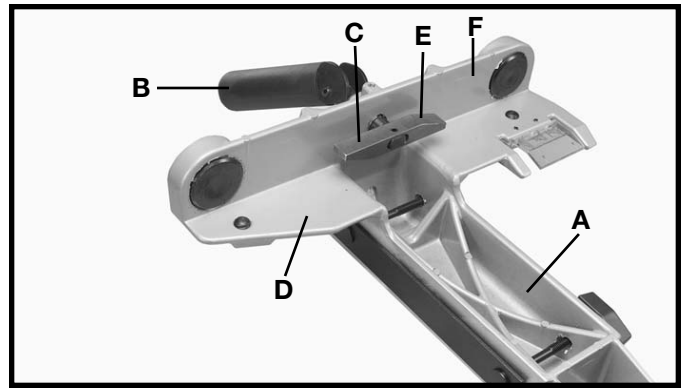

Fig. 66
1. Turn fence body (A) Fig. 66, upside down and lay it on a table or bench. Pull handle (B) out against fence body. Make certain the surface (C) of clamp bracket is parallel to the face (D) of the fence body, and that the inside edge (E) of the clamp bracket is parallel to surface (F) of the fence body. Turn handle (B) Fig. 66, if necessary.